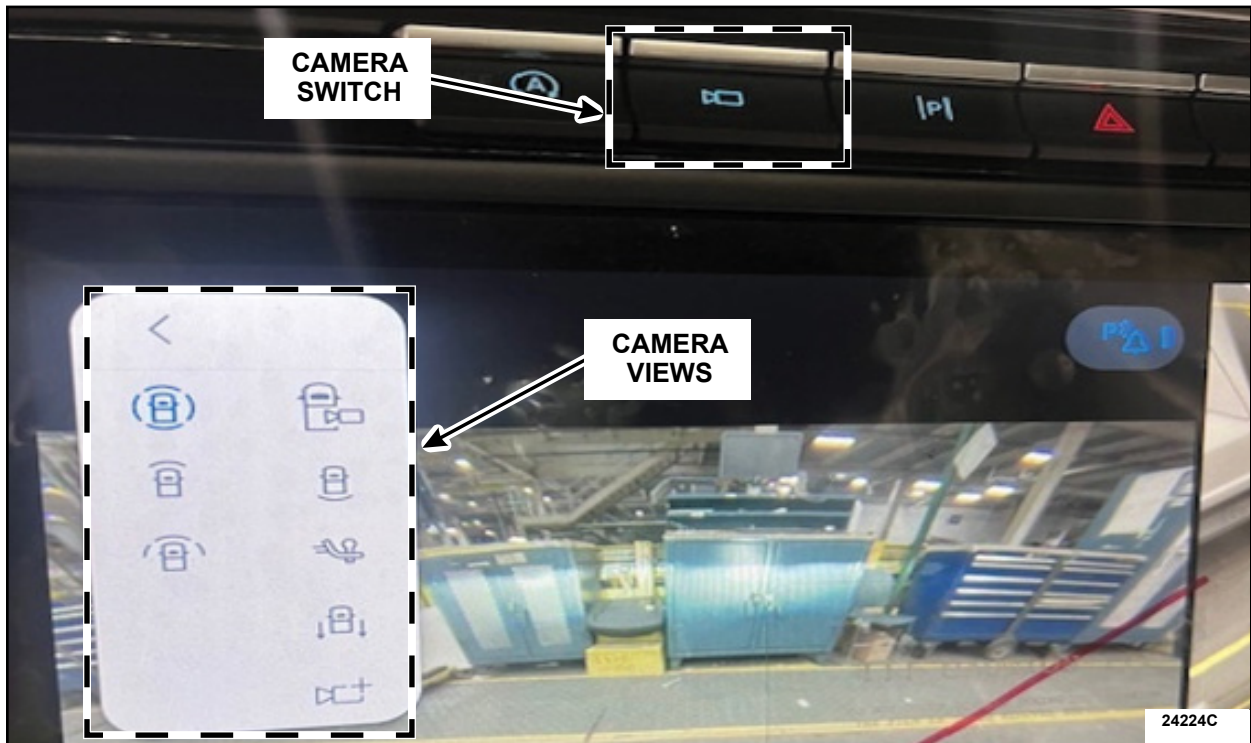

FIGURE 2
5. Verify proper operation of the 360° and center high mount stop lamp (CHMSL) camera display on the 12 inch screen by selecting each camera view. See Figure 2.